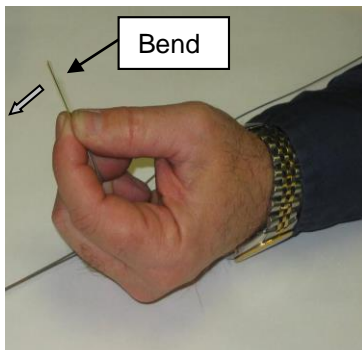

Figure 8
6.4.2 To help locate ripcord, bend and pinch the first inch of Sub-Unit between thumb and index finger and then let them spring back. See Fig. 8.